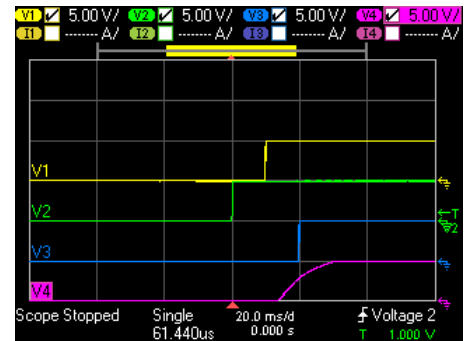

Figure 13 – Output On Delay in Scope View
- a. You should see a screen approximately the same as the one shown in Figure 13.